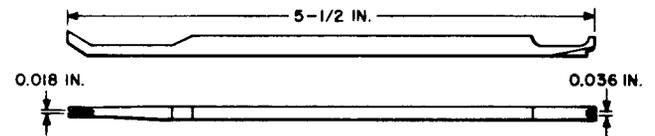

Fig. 11—R-2753 Adjuster Tool
2.12 R-2753: The R-2753 adjuster tool (Fig. 11) is used for adjusting cover springs on the AF-, AG-, AJ-, and AK-type relays.